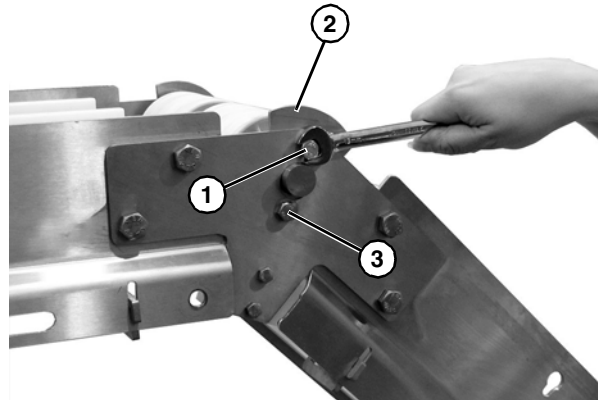
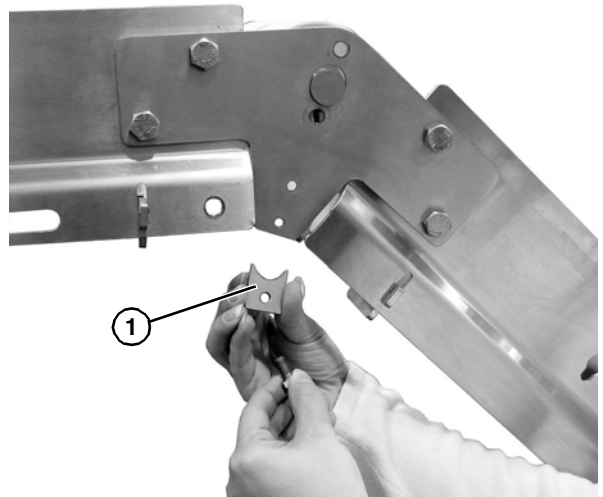

Figure 70
Figure 71
2. Remove cap screw (**Figure 70, item 1**) and edge guide plate (**Figure 70, item 2**) from each side of the conveyor.
3. Remove the cap screw (**Figure 70, item 3**) and shaft clamp (**Figure 71, item 1**) from each side of the conveyor.